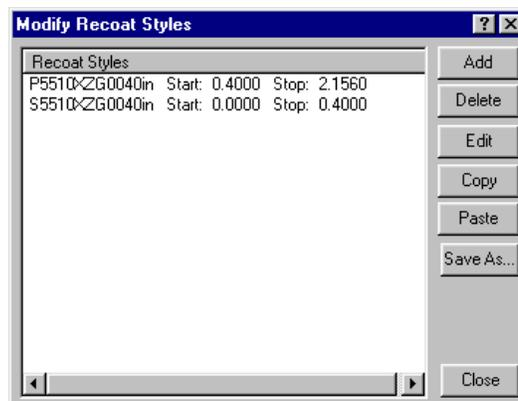

Figure 85. *Modify Recoat Styles Dialog*
2. Click the "Modify Recoat Styles"...  icon from the "Build Toolbar". This brings up the "Modify Recoat Styles" dialog as shown in Figure 85.